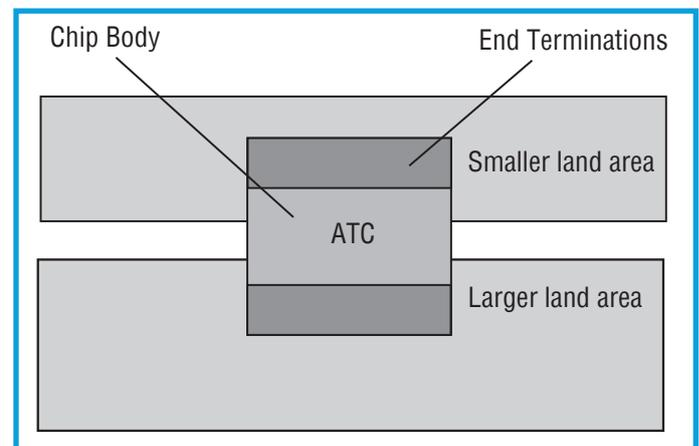

Figure 3. Solder the smaller land area first
6. If lands are of different size, solder the smaller land area first. Hold the chip in place with tweezers or vacuum pickup. See Figure 3.